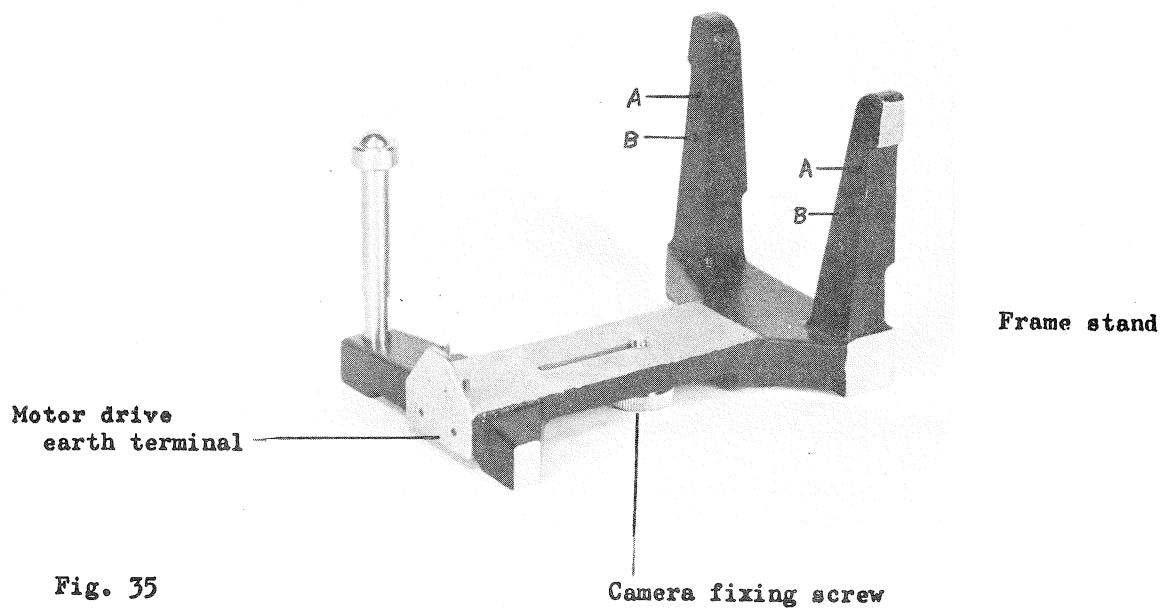

Fig. 35
- 6-1-5. Fix the light source lamp for the parallax detecting to the frame stand. The lamp is fixed to the lower holes (B in Fig. 35) in the frame stand. The upper holes (A in Fig. 35) are used for MG-8.